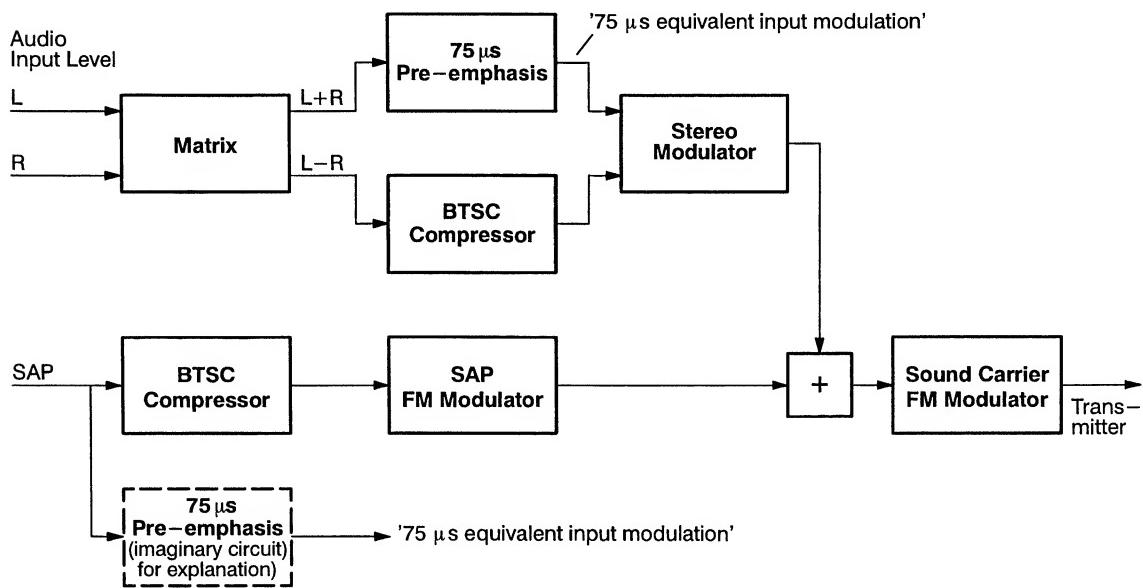

Fig. 2 Simplified Diagram of a BTSC Transmitter System
The broadband baseband spectrum is transmitted via frequency modulation on the sound carrier (4.5 MHz). Due to the parabolic noise characteristic, which is typical for FM transmission systems, the noise level increases for higher frequencies. To improve the Signal-to-Noise Ratio of the L–R signal and the SAP signal, both channels are encoded by the BTSC Compressor; see Figure 2.
Figure 2 shows a simplified diagram of a BTSC transmitter system. The BTSC modulation standards and the maximum allowed peak deviations are shown on the next page.
2. The maximum allowed audio input level of 100 % modulation ($100 \% \triangleq 0$ dB) is frequency dependent due to the 75 µs pre-emphasis; see Figure 2.
This is used as a reference and determines the modulation level that would occur for the equivalent Mono signal processed via a 75 µs pre-emphasis; see Figure 2.